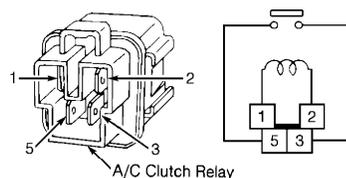

Fig. 15: A/C Clutch Relay Terminal ID
3) Remove relay from relay box. Apply ground to terminal No. 2 of relay. See Fig. 15. Apply battery voltage to terminal No. 1. With relay energized, continuity should exist between terminals No. 3 and 5. No continuity should exist with relay de-energized.